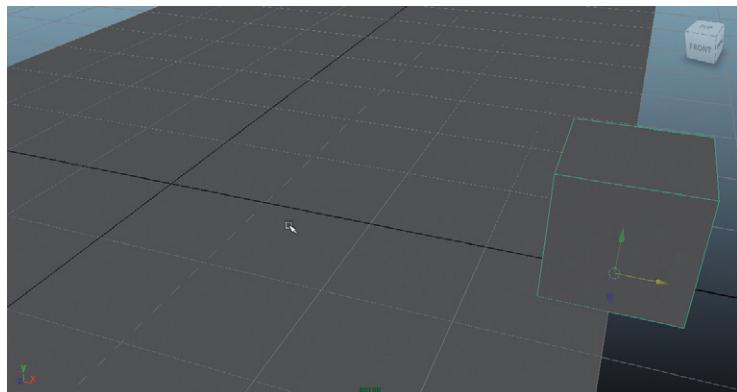

FIG 3.13 Snapping the cube to the edge of the hallway floor.
Step 18: Snap the wall to the edge of the floor. Still with the Move Tool activated hold v down (to snap to vertex) and grab the X handle of the manipulator (red) and move the cube to the edge of the floor (Fig. 3.13).